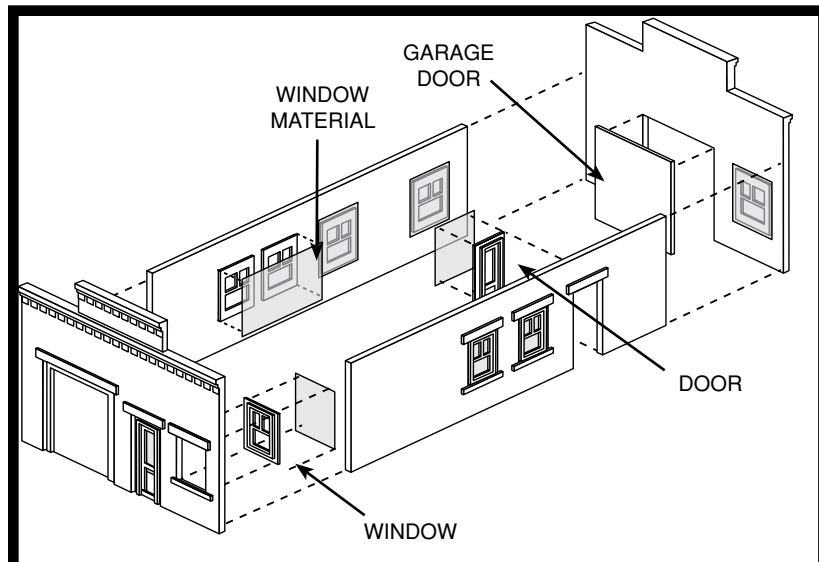

FIG. 1
2. Glue walls together as shown in Fig. 1. Long walls will be glued to the inside edge of short walls.
3. Cut clear window material slightly larger than window frames. Glue windows and doors to inside of walls as shown in Fig. 1. Attach window material to back of window frames as shown in Fig. 1 with very small amount of glue placed around outer edges.
TIP! Tack sandpaper to a flat surface, and use a "squaring block" with a 90° angle. Hold squaring block in place while sanding walls. Do not sand into detail (Fig. 1).